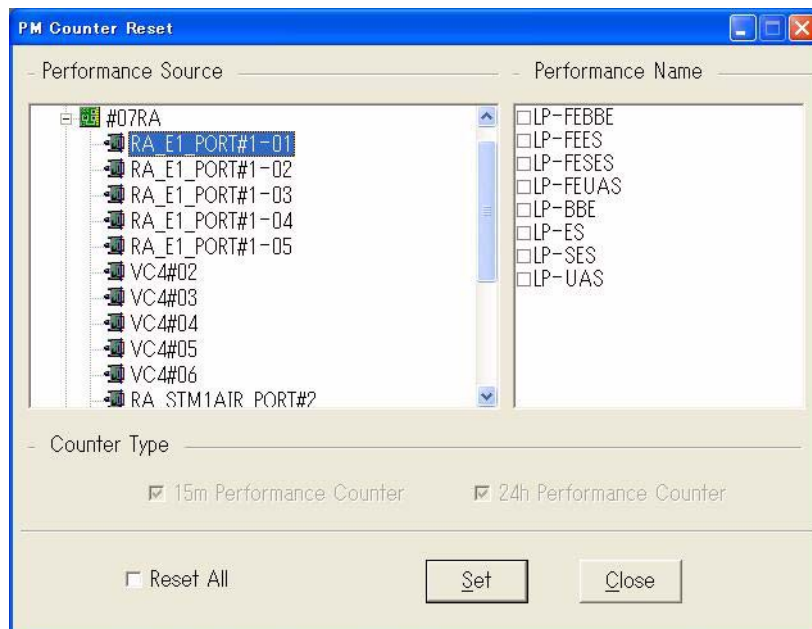

Fig. 4-7-22 Performance Counter Reset Dialog Box
The performance of the equipment can be reset via the **Performance Counter Reset** dialog box. **Fig. 4-7-22** shows an example:
- 3 Select **PM Counter Reset** from the **Performance** menu. The **Performance Counter Reset** dialog box shown in *Fig. 4-7-22* appears.